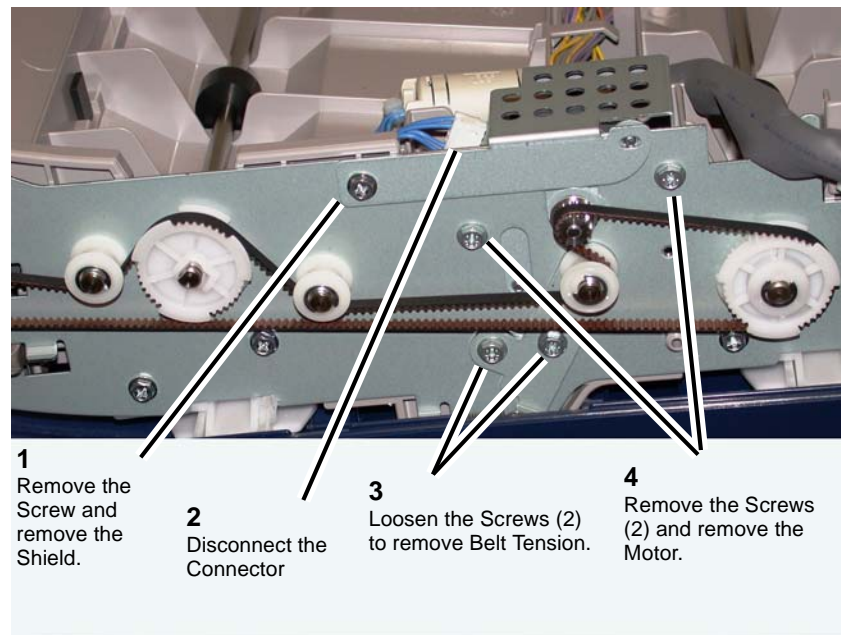

Figure 1 Removing the H-Transport Drive Motor
5. Remove the H-Transport motor (Figure 1).